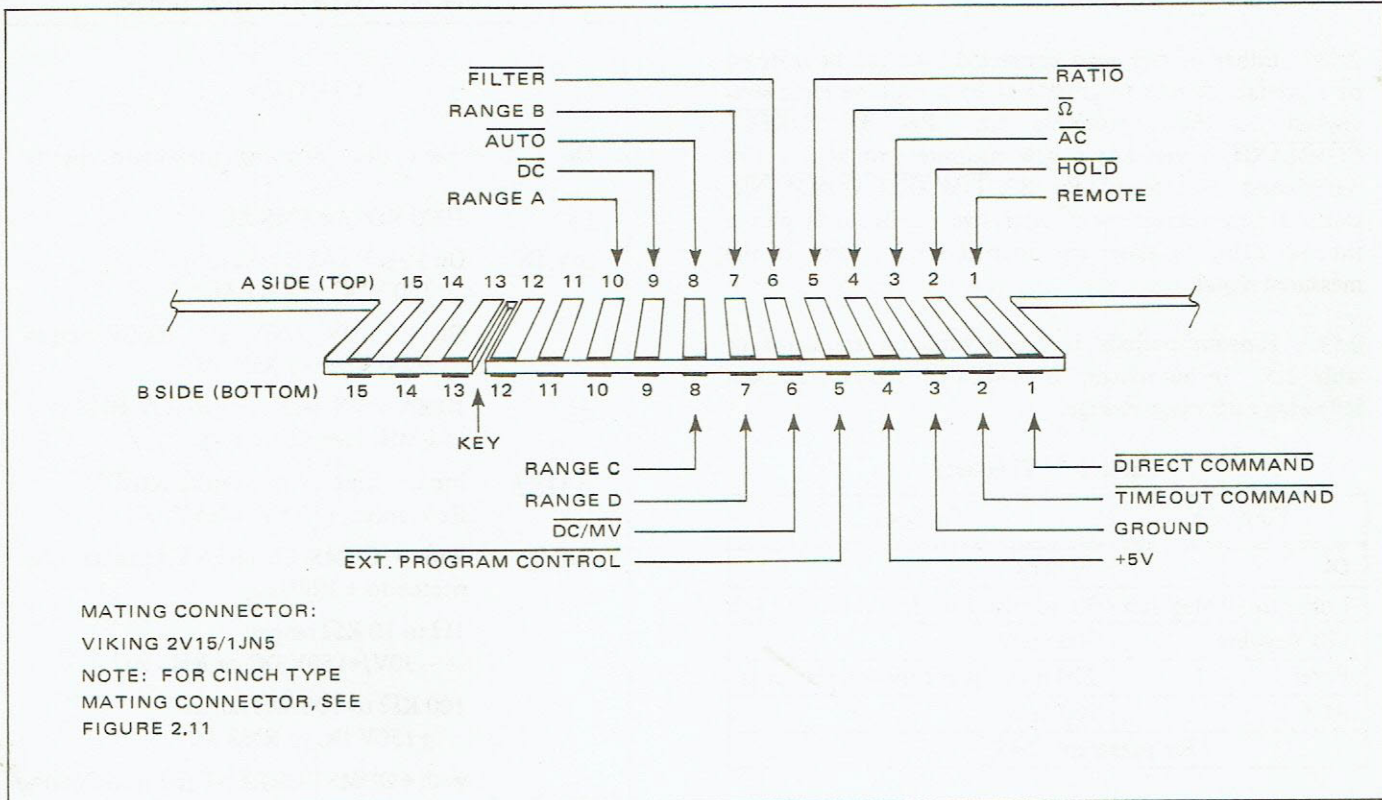
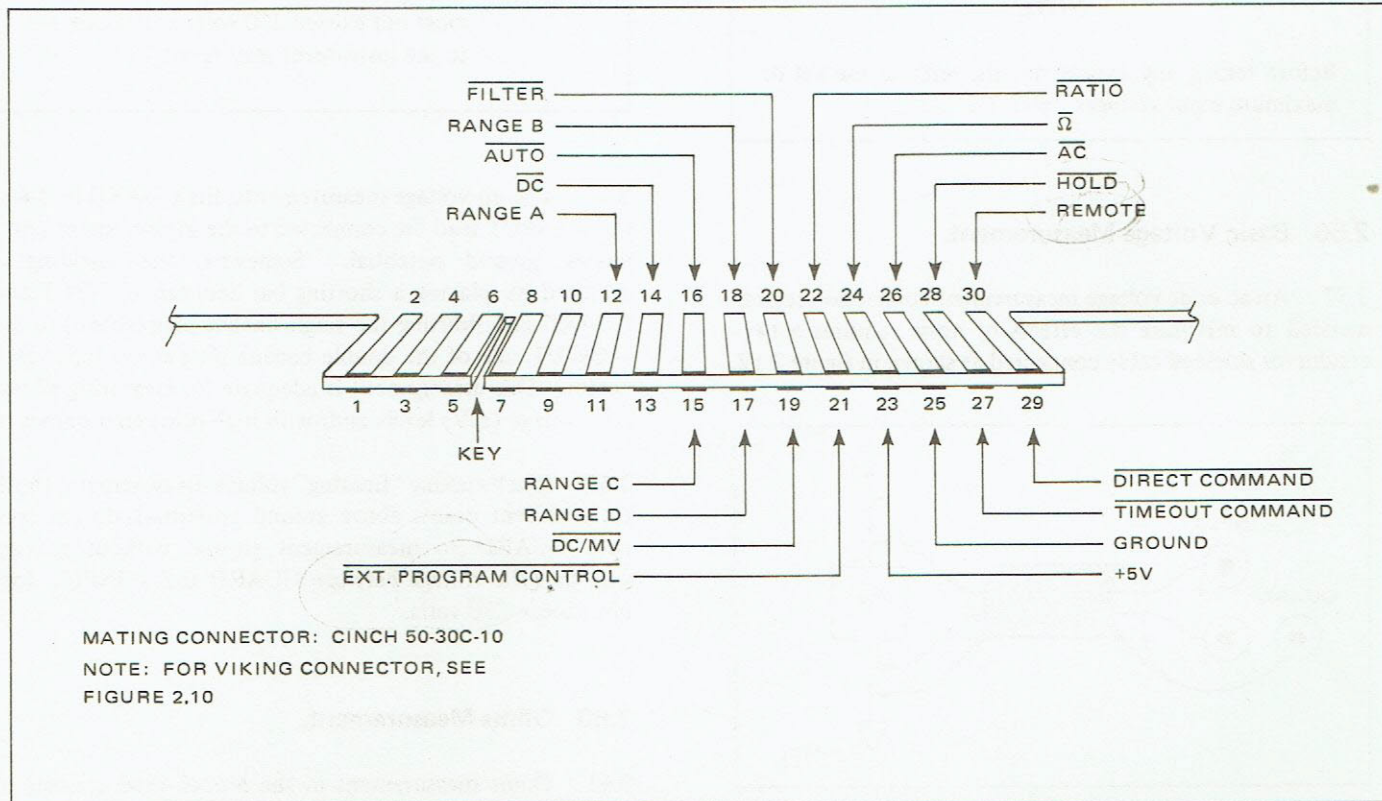

Figure 2.10 - PROGRAM INPUT Connector J202 (Viking)
Figure 2.11 - PROGRAM INPUT Connector J202 (Cinch)
2.40 The instrument accepts commands made through PROGRAM INPUT connector J202 on the rear panel of the instrument. Pin assignments of J202 are shown in figure 2.10. Commands are made by a switch closure from the appropriate pin to ground or by standard TTL logic levels: 0 to .5V, false; +2.4 to +5.0V, true (with respect to ground, pin B3). Either open collector or standard TTL output circuits may be used.
Figure 2.10 shows the pin numbering when a Viking mating connector is supplied. On certain instruments, a Cinch connector was supplied. Pin numbering for the Cinch connector is shown in figure 2.11. Command requirements and relative position of the pins are identical; only the pin numbers are different.